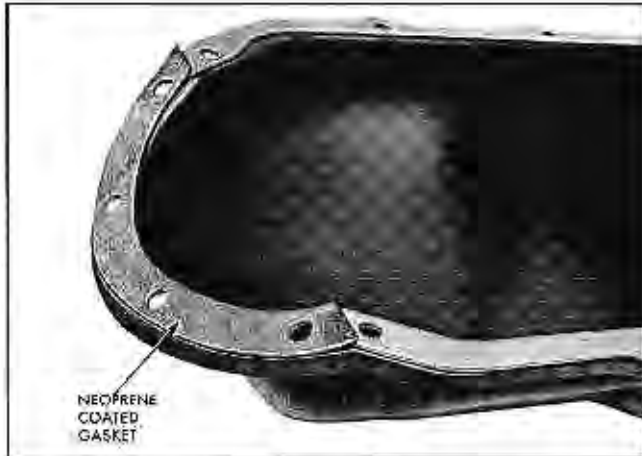

Fig. 6-53 Front Oil Pan Gaskets Overlapping Side Gaskets
5. Install new oil pan to timing chain cover gasket on pan, using gasket retainers (Fig. 6-53).